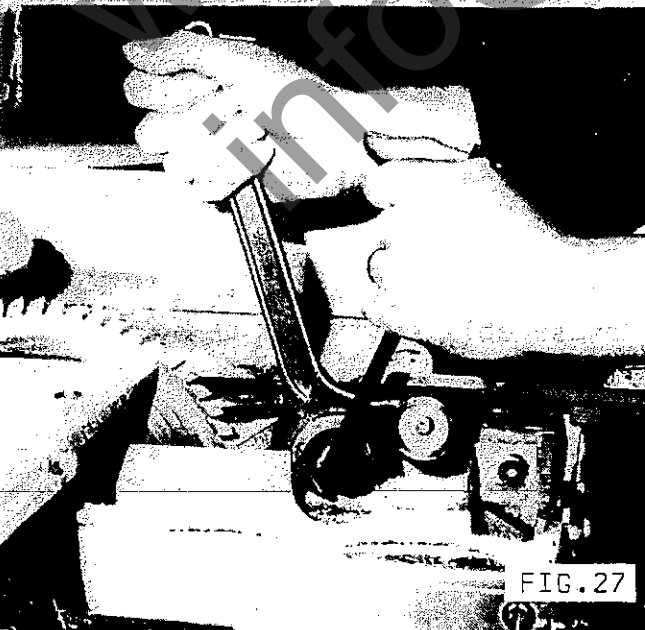

FIG. 27
- 5) Locate 8mm allen key (supplied) in scoring saw spindle as shown in FIG.27 and remove scoring saw nut (right hand thread) with spanner supplied.